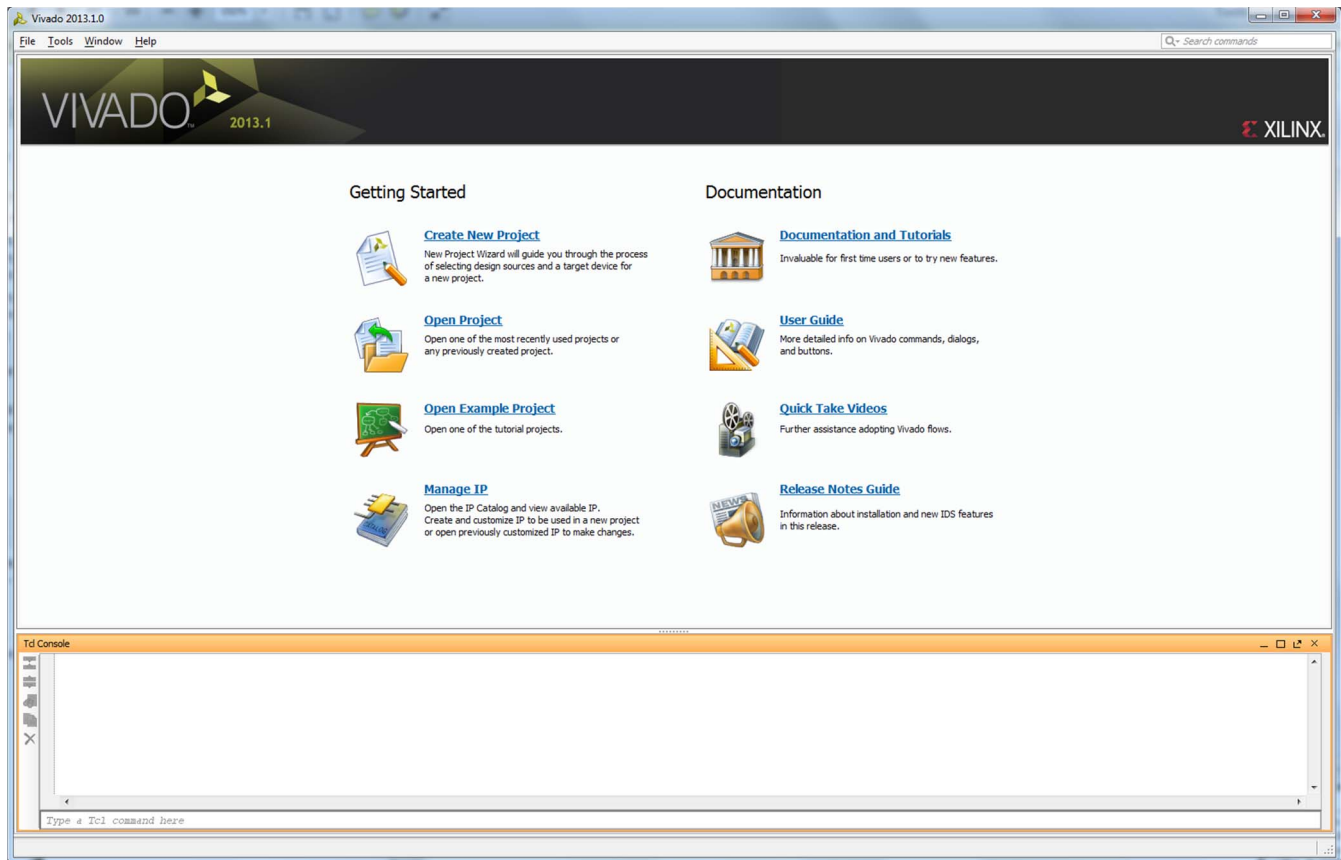
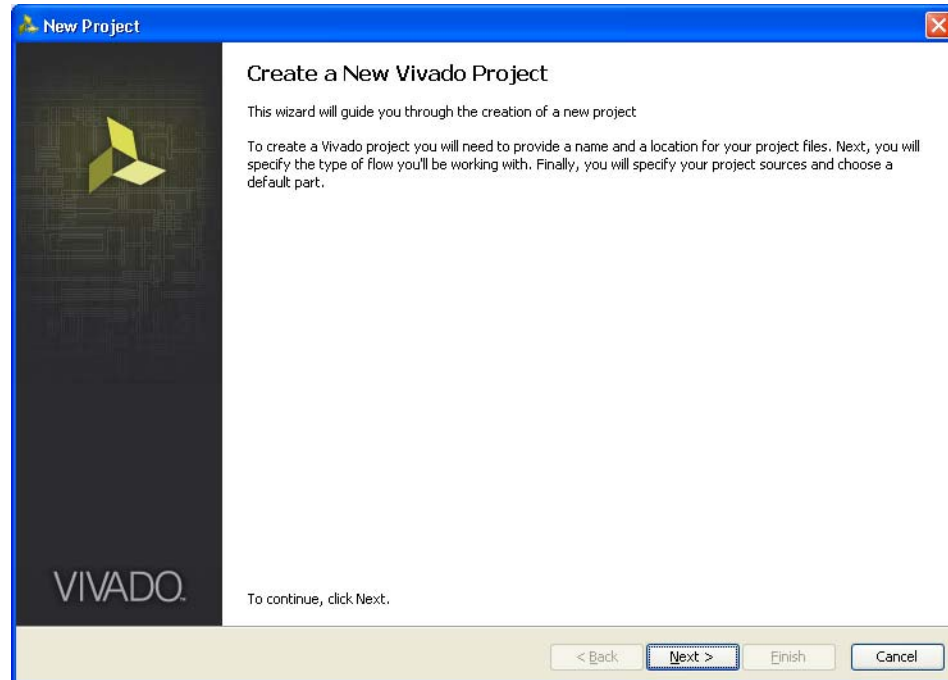

Figure 1-1: Vivado Design Suite
Figure 1-2: Create a New Vivado Tool Project
1. Start the Vivado Design Suite (see Figure 1-1).
2. To create a new project, click the **Create New Project** option shown in Figure 1-1 to open the page as shown in Figure 1-2.